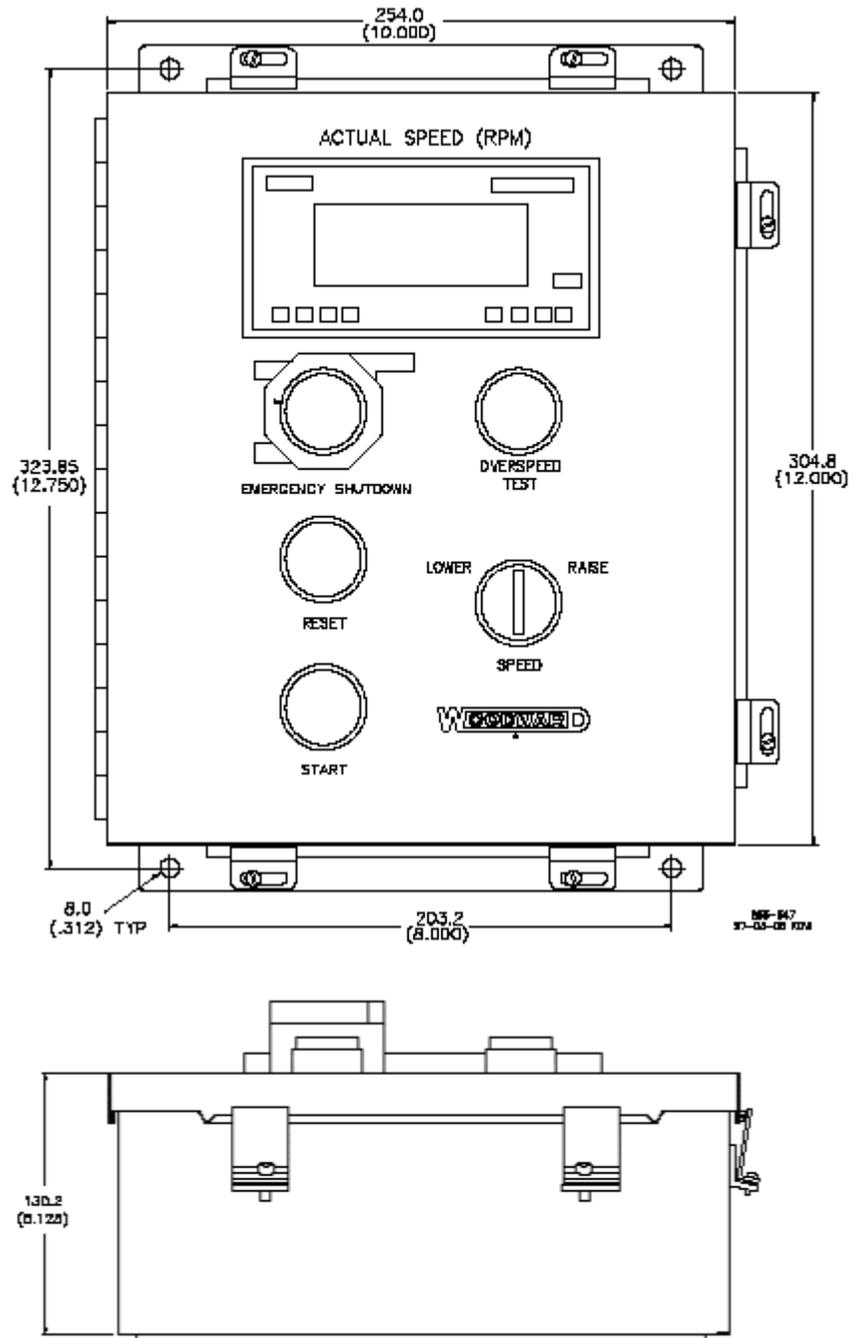

Figure 8-2. Operator Control Panel
1. Mark the panel location and mounting holes (see Figure 8-2).